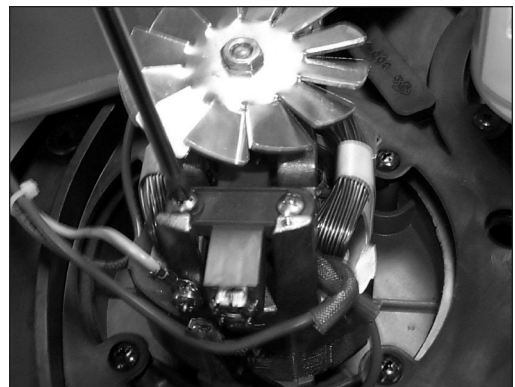

Fig. 3
5. Remove the carbon brush assembly by removing the 2 screws that attach it to the vac motor. **See Figure 3**